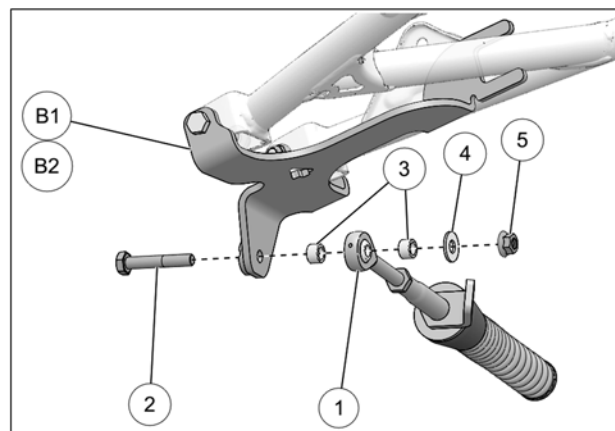

Fig. 10
- Attach stabilizing rod (1) to anchor bracket (B1-B2), using bolt (2), spacer bushings (3), washer (4), and nut (5). Torque to $70 \text{ N}\cdot\text{m}$ [$52 \text{ lb}\cdot\text{ft}$]. See Fig. 10